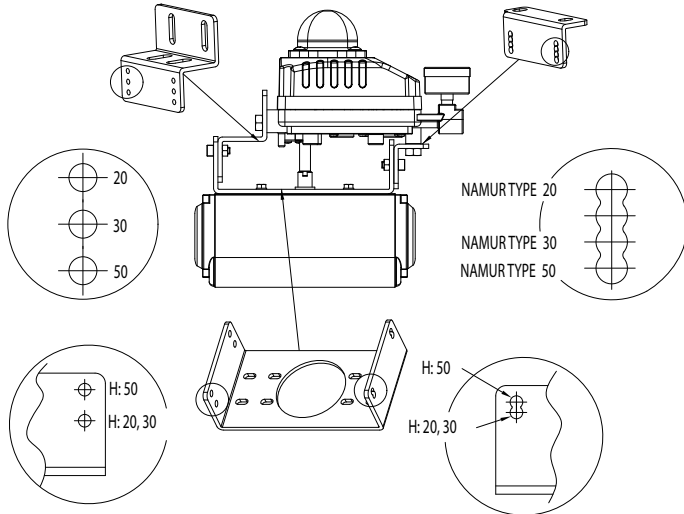
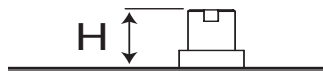

Figure 5
Figure 6
Care must be taken when assembling the two top brackets to the bottom brackets. Please refer to **Figure 5** for proper placement. Failure to do so will cause the positioner to be misaligned to the actuator shaft causing binding and poor performance.
1. Standard actuator stem height (**H**) is .79” (20mm), 1.18” (30mm), or 1.96” (50mm). After checking “H” (**Figure 6**), assemble with the bracket as shown in **Figure 5**.